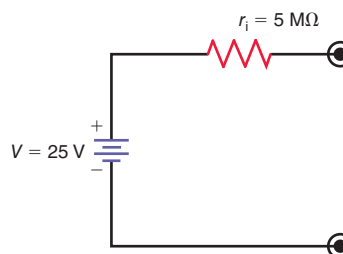

Figure 10-32
10.14 Redraw the circuit in Fig. 10-32 using the symbol for a current source.